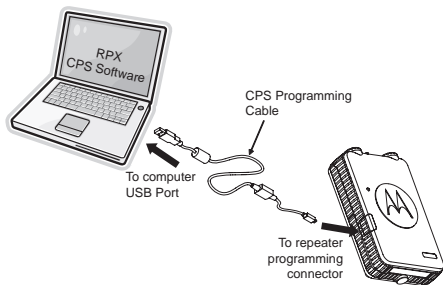

Figure 18. Programming the Repeater Using the CPS
3. Plug the CPS Programming Cable P/N RKN4155 into the Repeater's programming connector. "Figure 18. Programming the Repeater Using the CPS" on page 40.